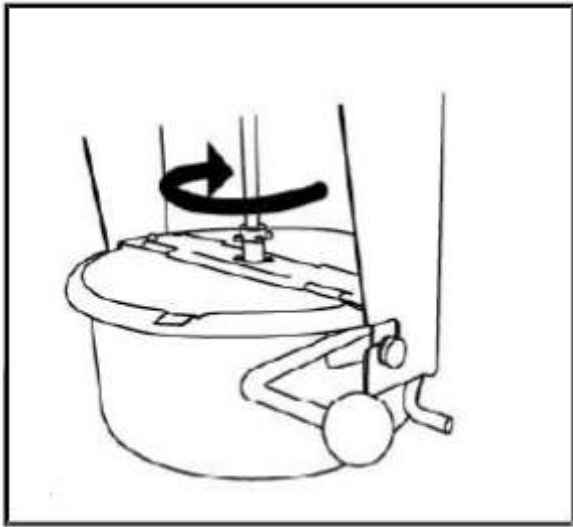

Fig. 3
8. Switch the Stirrer to ON (II). **Please Note:** 4oz and Popcorn Anytime machines can skip this step. (Fig. 3)